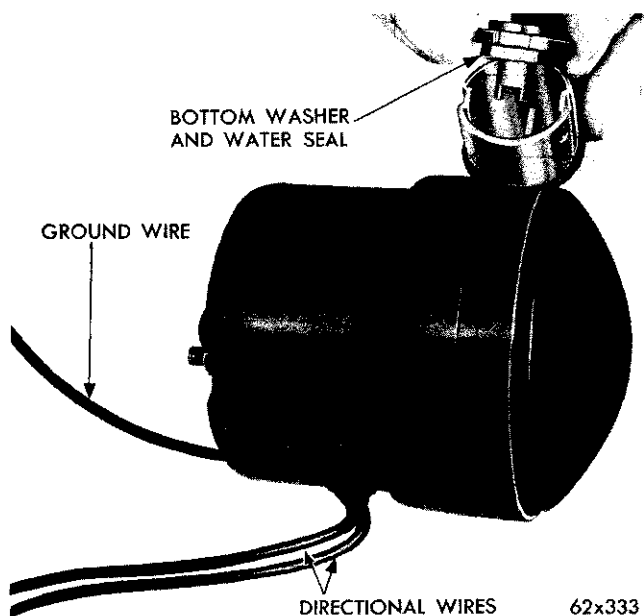

Fig. 7—Removing Bottom Insulator and Water Seal Washer
(7) Remove the bottom insulator and water seal washer (Fig. 7) from the tubular fitting using a wire hook and long nose pliers.